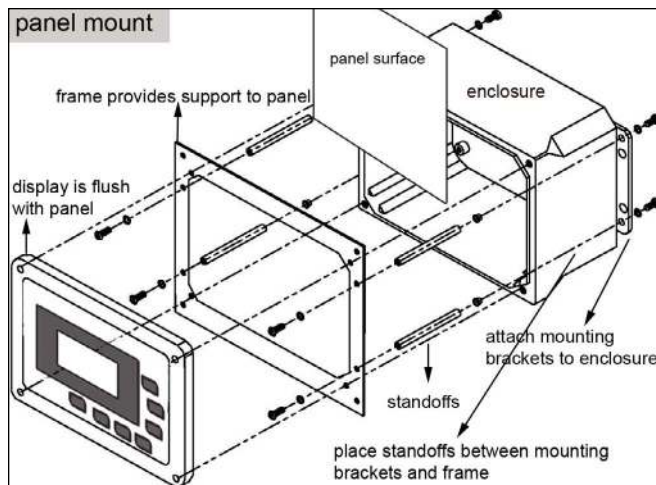

Figure 3.8
8. Place standoffs between 5200A mounting brackets and panel surface - figure 3.8.